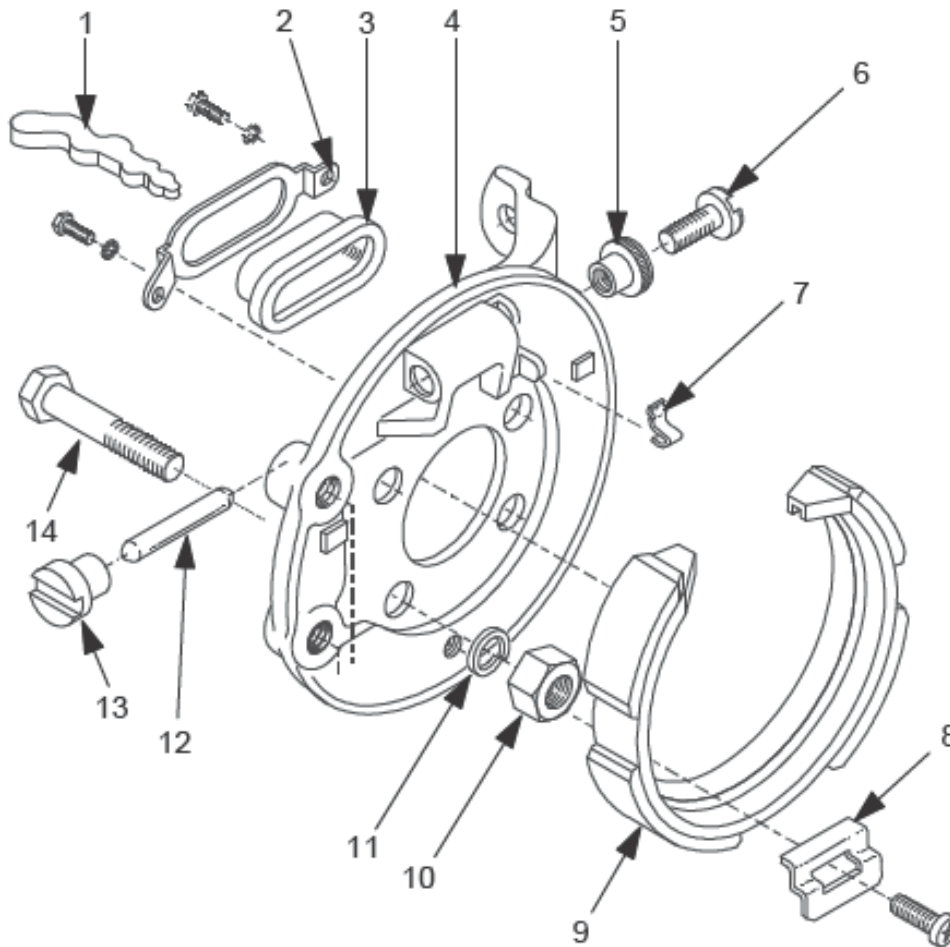

Figure 9 Park Brake Assembly – Exploded View
53. **Disassembly.** Disassemble the park brake as follows (Figure 9):
b. Position the draw link (Figure 9, Item 1) and dust boot (Figure 9, Item 3) on the backing plate (Figure 9, Item 4) with the draw link facing rearwards. Stretch the dust boot over the retaining lip on the back of the backing plate then fit the retaining plate and secure it with the two mounting screws fitted with spring washers.
- d. Install the adjuster pawl (Figure 9, Item 7).
e. Screw the tappet (Figure 9, Item 6) into the adjusting nut (Figure 9, Item 5) until fully home.
g. Install the push rod (Figure 9, Item 12) into the tappet (Figure 9, Item 13).
- j. Fit the park brake shoe (Figure 9, Item 9) in the operating position.
- k. Apply thread sealant to the hold-down plate mounting screw and install the plate (Figure 9, Item 8). Torque the screw to between 2 and 5 N.m.
- p. Install the backing plate on the axle flange and secure it with the four bolts (Figure 9, Item 14), spring washers (Figure 9, Item 11) and nuts (Figure 9, Item 10). Torque the bolts to 45 N.m.
Table 3 Annotation to Figure 9